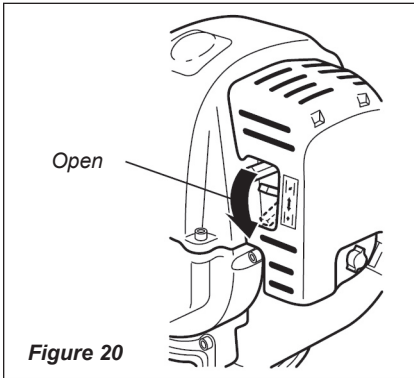

Figure 20
- When the engine first fires, slowly move the choke lever to the “OPEN (| ↑ |)” position. See Figure 20. (If the engine stops after the initial start, close the choke and restart.)